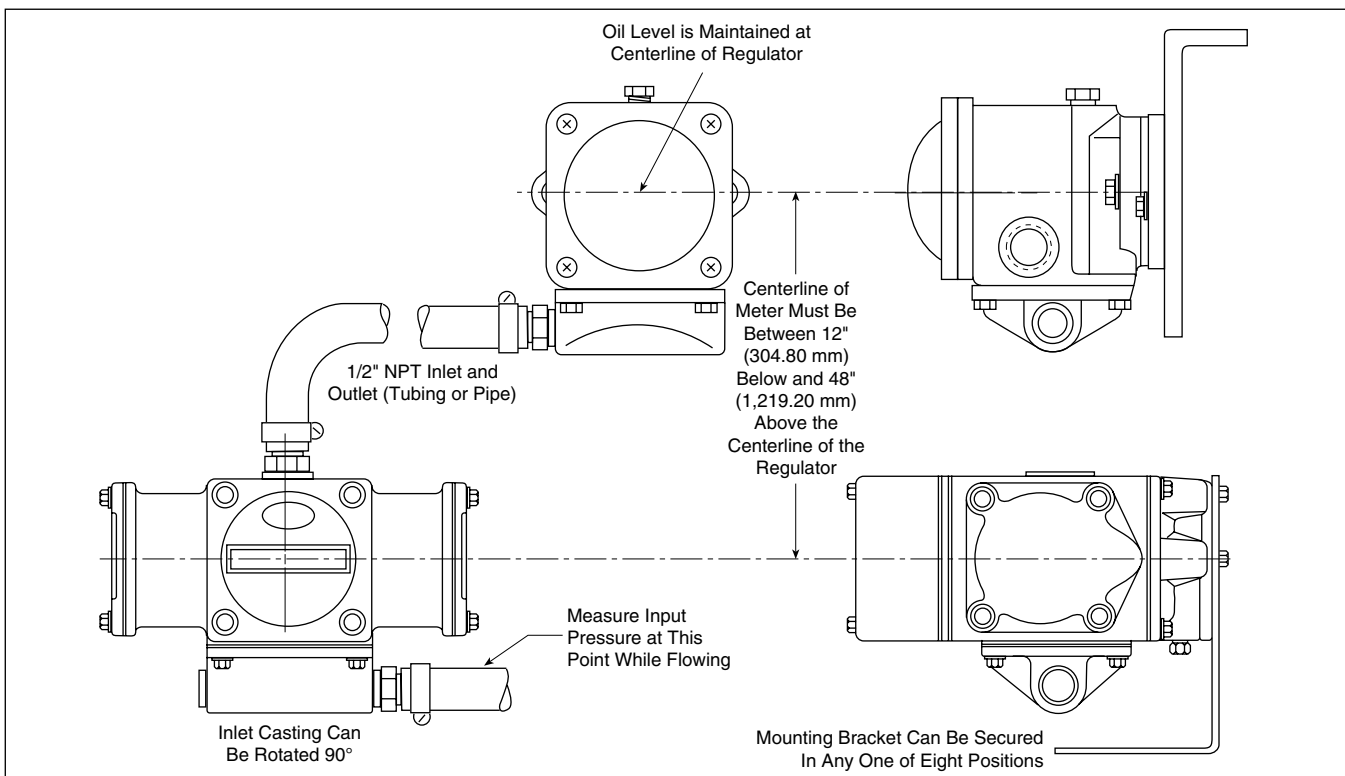

Figure 1 - Installing the Slow Flow Meter
5. Confirm the input pressure while flowing. The measurement should be taken close to the meter (see Figure 1). Excessively long plumbing or systems with many elbows or valves can have significant pressure drop. Therefore, static pressure or pressure readings taken at a distance from the meter can be misleading.